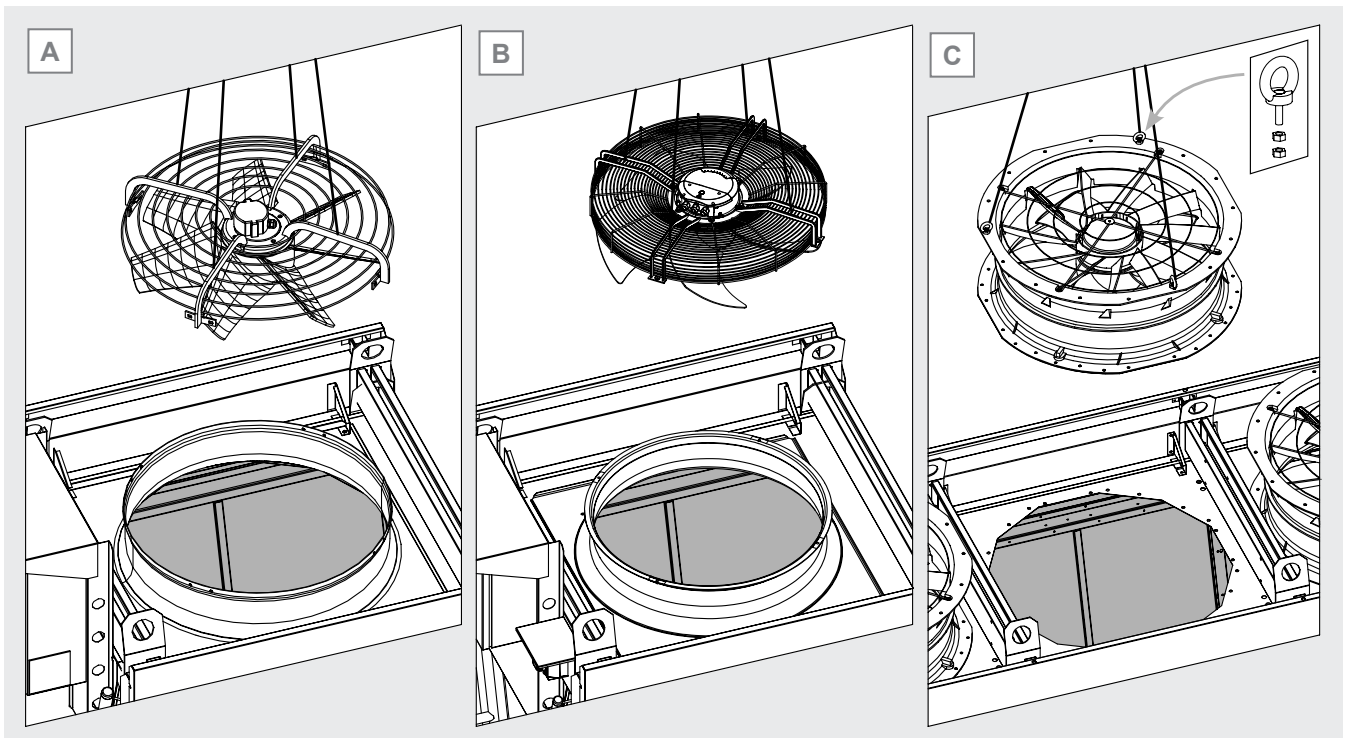

Figure 35
- radial and planar attachment motorfan: attach hooks or lifting straps to the arms of the motorfan grille. See Figure 35 A and B.
- motorfan with integral fan shroud: attach min. 3 lifting eyebolts with nut and lock nut to the top flange of the motorfan. Lifting eyebolts should be equally spaced (e.g., 120° if no. 3 eyebolts). Attach hooks or bands to the lifting eyebolts. See Figure 35 C.